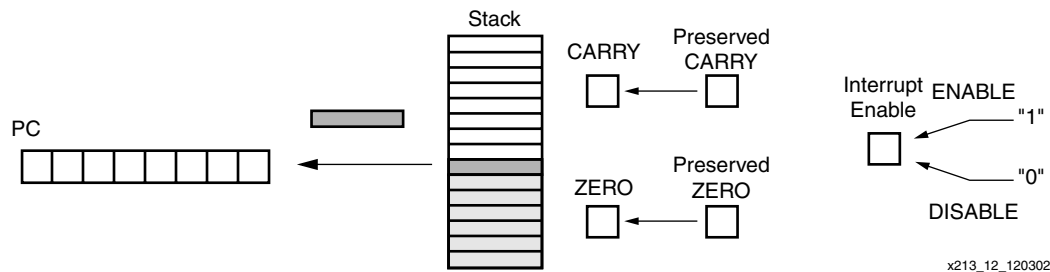

Figure 17: **RETURNI** Instruction
The RETURNI instruction (Figure 17) is a special variation of the RETURN instruction. It concludes an interrupt service routine. The RETURNI is unconditional and always loads the program counter (PC) with the last address on the program counter stack. The address does not increment in this case, because the instruction at the address stored needs to be executed. The RETURNI instruction restores the flags to the point of interrupt condition. It also determines the future ability of interrupts using ENABLE and DISABLE as an operand.